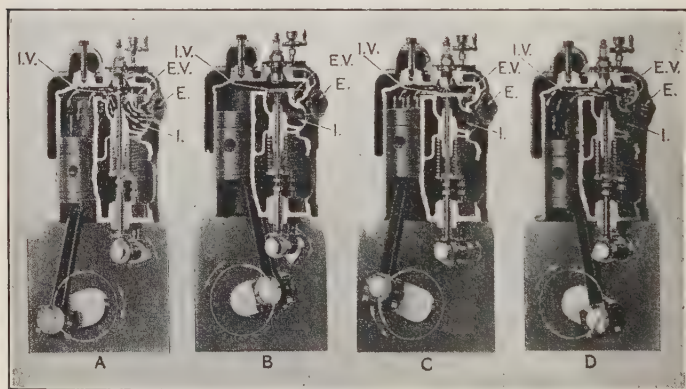

FIGURE 660. — FOUR-STROKE CYCLE.
**451. Four-Stroke Cycle.** — Let us suppose that the cylinder has just been emptied of waste gases and the engine is ready to begin a new cycle. As the piston moves away from the closed end of the cylinder, the inlet or admission valve is opened by a cam (Figure 660, A). Through this
valve flows a mixture of gasoline vapor and air, filling the cylinder. When the piston moves back toward the closed end of the cylinder, the gases are compressed to a fraction of their original volume (Figure 660, *B*). Just as, or just before, the compression is greatest, depending on how the spark is set, the timer makes contact and a spark jumps the gap in the spark plug and the mixture of gases is exploded (Figure 660, *C*). When the engine is being started, or is running slowly, the mixture is ignited just as the piston is beginning the power stroke, as earlier ignition might tend to force the piston backward. But when running at higher speeds, the "spark is advanced." This means that the ignition begins shortly before the piston has completed the compression stroke. The burning of the mixture takes a measurable time, but at high speed it is necessary to begin the burning before the piston begins the power stroke, in order to give time for the combustion to complete itself before the power stroke begins.
The explosion of a gas is nothing more than a rapid burning of the gas. The explosion is accompanied by a great increase in pressure, mostly due to the heat caused by the burning. This pressure drives the piston toward the open end of the cylinder with the one power stroke out of the four strokes in the cycle. During the fourth stroke (Figure 660, *D*), as the piston moves toward the closed end again, the exhaust valve is opened and the waste gas is pushed out by the piston. The engine is then ready to repeat its cycle.